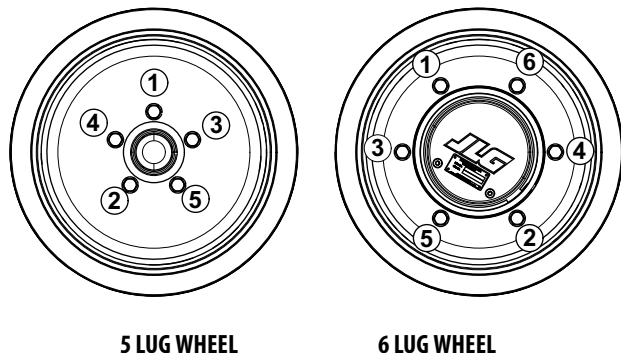

Figure 5-4. Wheel Lug Nut Tightening Sequence
2. Tighten lug nuts in the following sequence. (See Figure 5-4.)